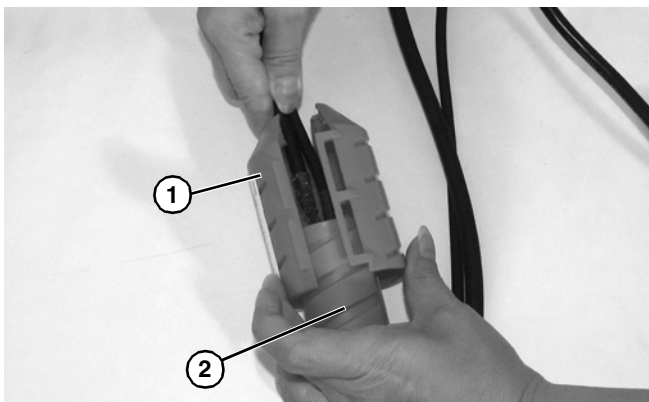

Figure 24
2. Remove outer cord cover (**Figure 24, item 1**) from inner cord cover (**Figure 24, item 2**).